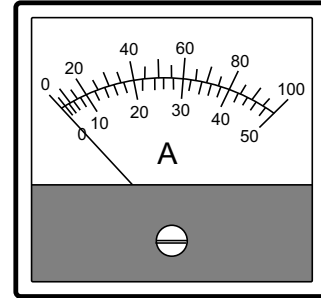

Figure 50. Ammeter (No Load)
11. The **ammeter** (Figure 50) will indicate **zero amps** with no load applied. When a load is applied, the ammeter will indicate the amount of current that the load is drawing from the generator.